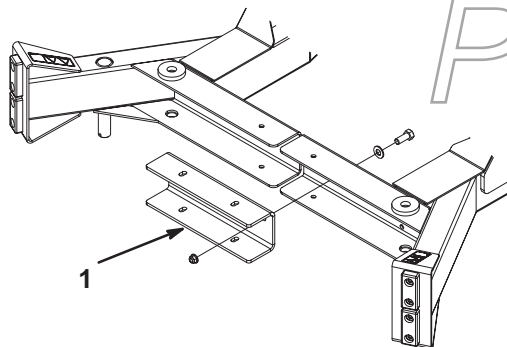

Figure 9
4. Secure right and left lift arms together with the connection channel and (10) 3/8 x 1–1/4” lg. screws, .406 x .813 flatwashers and 3/8 flange locknuts. Position as shown in figure 9. Torque to 27–33 ft–lb.